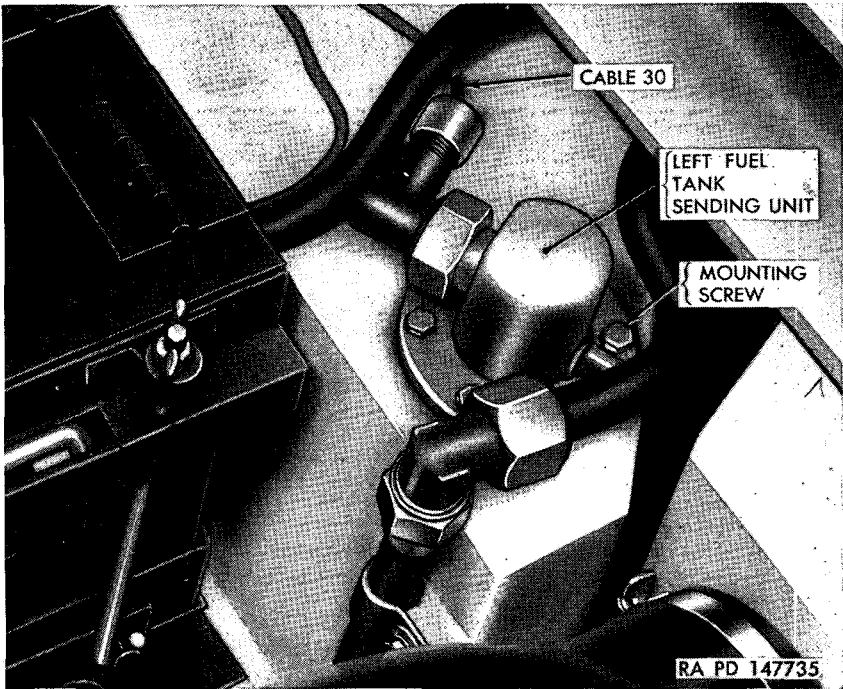

Figure 200. Left fuel tank sending unit—installed view.
- (1) *General.* Each fuel tank has a fuel tank sending unit located on top of the tank (fig. 200). Each sending unit is electrically connected to a fuel gage on the instrument panel (fig. 18).